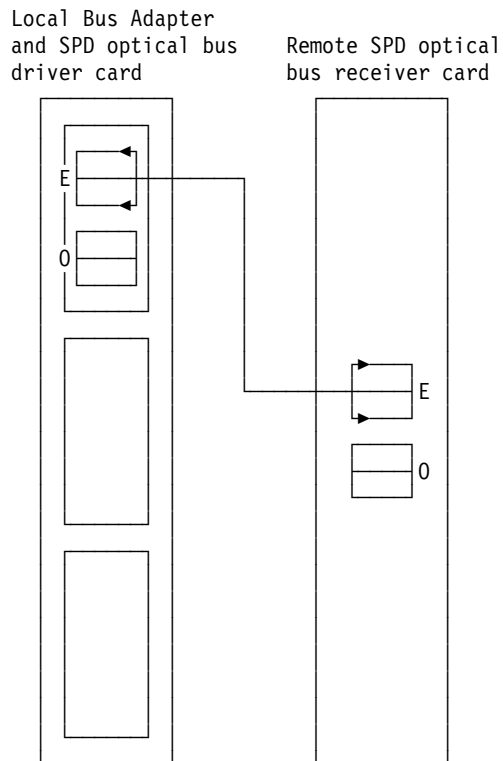
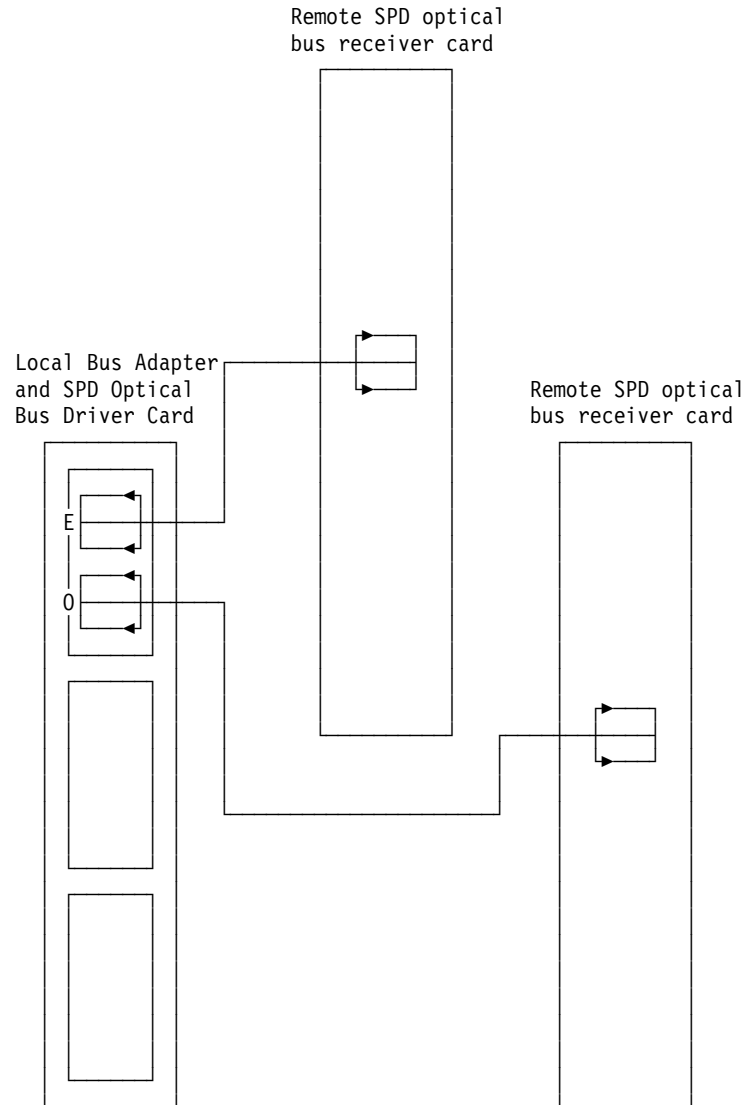

Figure 1. Example Single Bus
Figure 5. Example Single Bus Connection, No Redundancy
- Use the system configuration list, and Figure 1 through Figure 5 on page 274 to identify the correct configuration for your SPD migrated tower. Verify that the optical bus cable connections are correct. Use the *AS/400e server 170, 250, 6xx, 7xx, and Sxx System Installation and Upgrade* if you need to verify the system configuration rules.